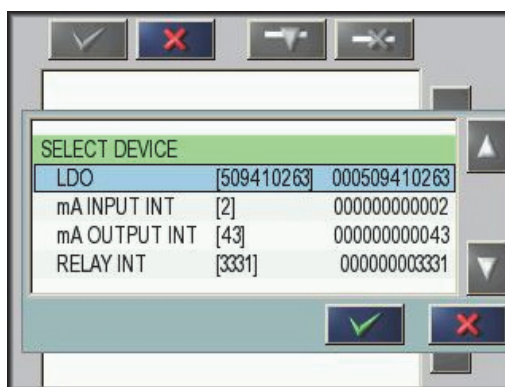

Figure 26 Device selection window
3. Press **ADD** and select a probe/device. The device selection window is displayed (Figure 26).